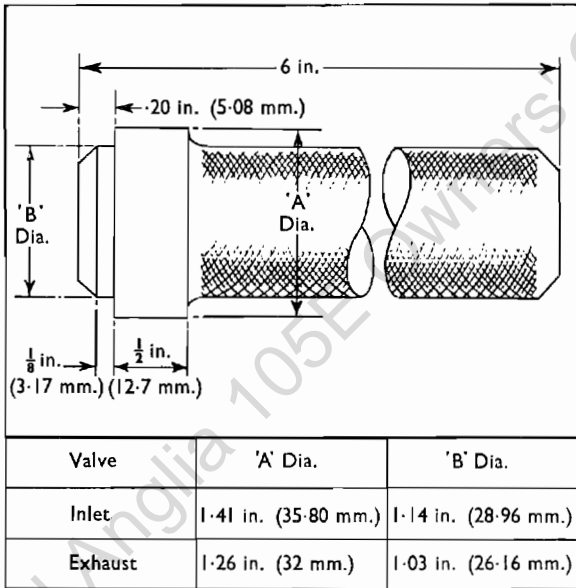

Fig. 18
13. **Valve Replacement.** Where it is necessary to fit valve inserts, a suitable drift must be made to the dimensions given in Fig. 18. The insert must be pressed squarely into position, and it may therefore be found advantageous to extend the end of the drift into the valve stem guide. Valve seat inserts are serviced for both inlet and exhaust valves.